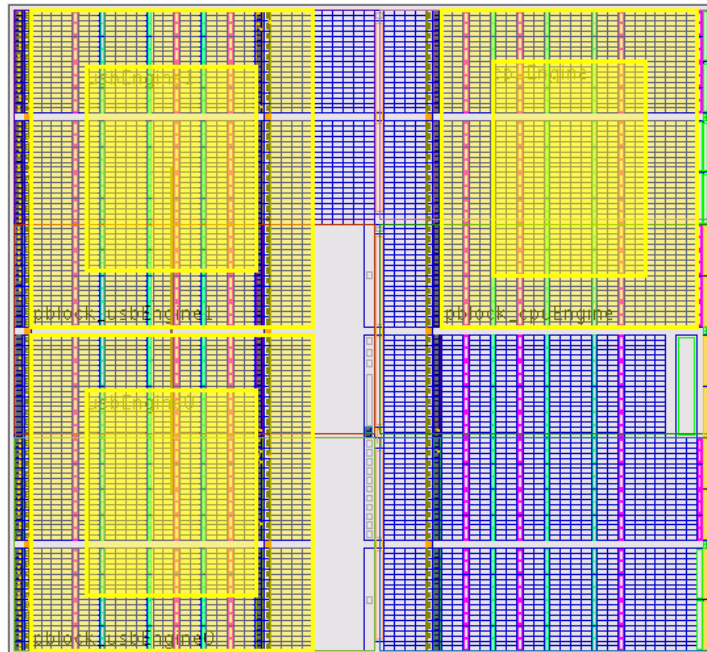

Figure 6: Completed Floorplan for Pblocks usbEngine0, usbEngine1, and cpuEngine
5. Click the top-left corner of the device where the CLBs start (reference Figure 6 for completed view).